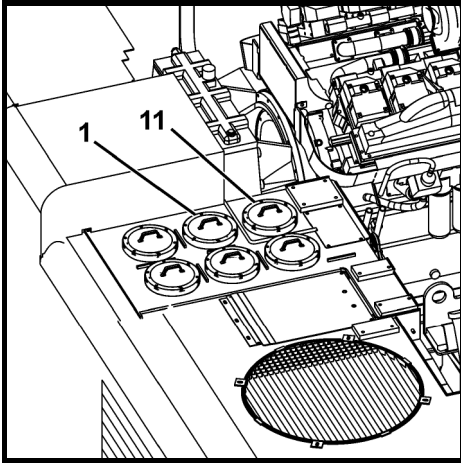

Fig. 13
for this reason, the given maintenance intervals to replace the return oil filters (Fig. 13, pos. 1) and leak oil filters (pos. 11), to clean the hydraulic oil cooler and to change the hydraulic oil must be strictly observed.